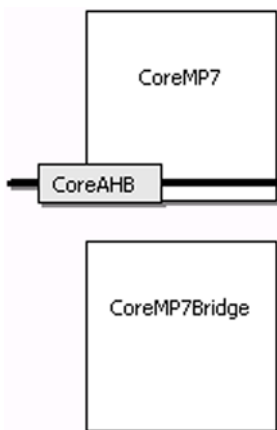

Figure 5-2. CoreConsole Schematic Window before Auto Layout
6. Once all three components have been added to the design, it should resemble Figure 5-2.